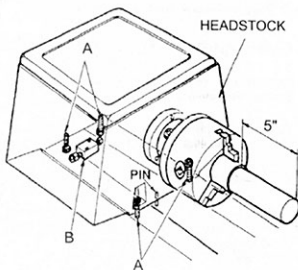

Fig.24
- Adjust two screw nuts (B, Fig. 24) located on the endgear side of the headstock. Loosen one and tighten the other. Make another cut. Keep adjusting screw nuts after each cut until the bar stock measurements are the same. Tighten all headstock screws.